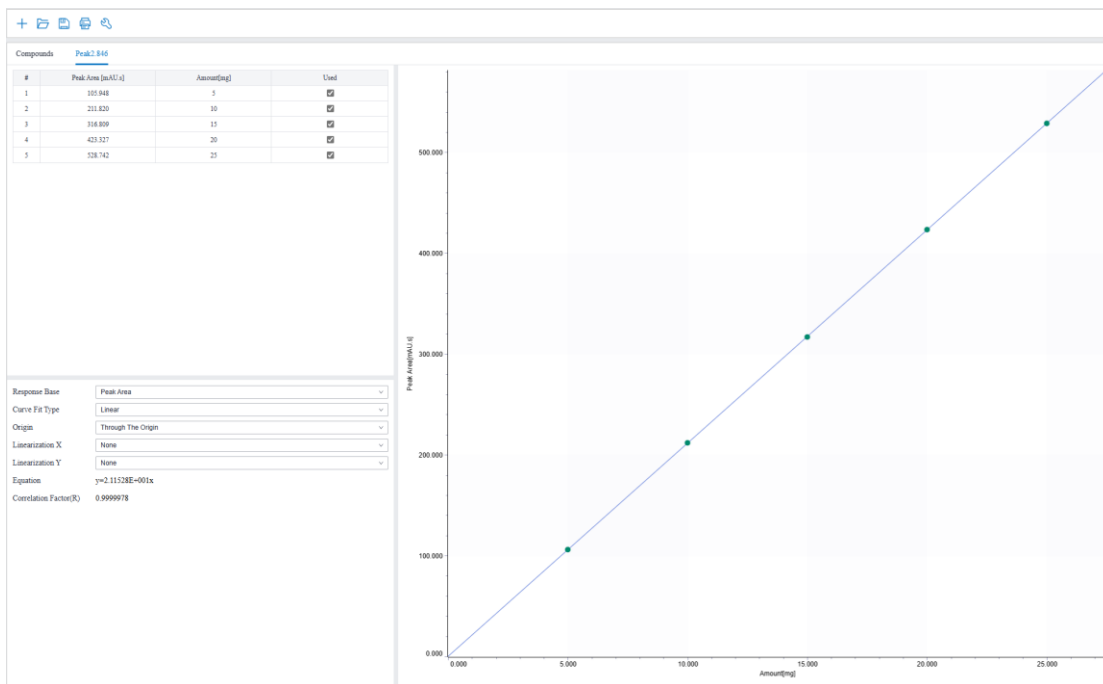

Figure 7-5 Calibration curve - Individual substance
(4) Select the calibration peak you want to use in the Calibration Summary Table. The name of the calibration peak is "Peak + retention time" by default. The response is based on the peak area or peak height.
(5) Repeat steps (3) - (4) until the files needed for calibration are added.
(6) After setting the calibration point, you can view the calibration curve in the TAB of the corresponding compound and set the calibration method of the calibration curve, as shown in Figure 7-5. If the column of "Used" of a calibration point in the information table on the upper left is left blank, the calibration point will be displayed as a circle in the calibration table, and the calibration point data will not be calculated when the curve is calculated.